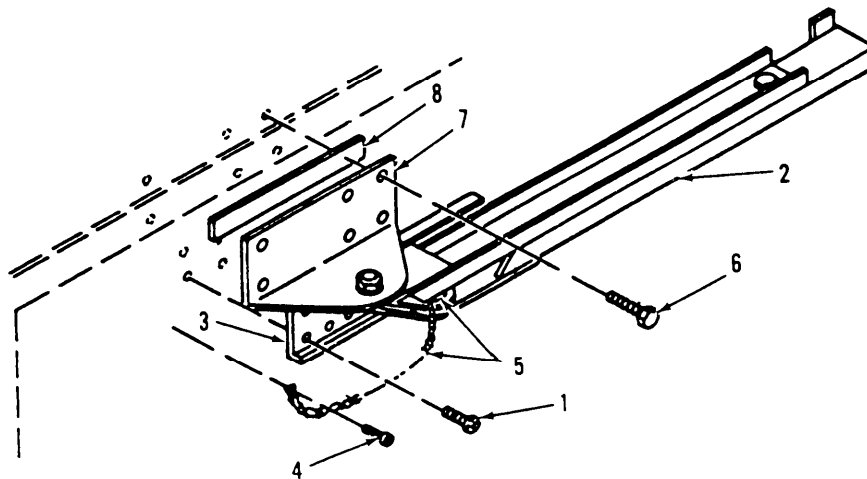
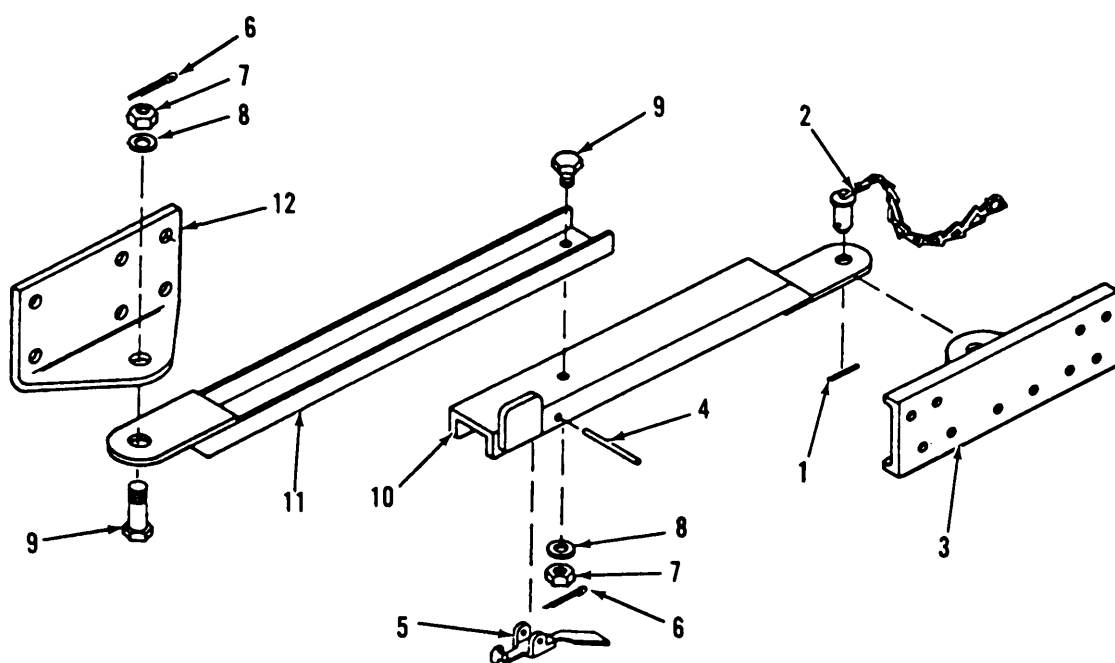

Figure 3-25. Door Brace Assembly Removal.
Figure 3-26. Door Brace Assembly Maintenance
a. Inspect. (Figure 3-26)
- (1) Inspect for missing or damaged hardware,
- (2) Inspect for wear, dents, or other damage.
- (3) Inspect that the two hex-head screws (9) move freely.
- (4) Inspect for damaged door brace catch (5) and spring pin (4).
b. Remove. (Figure 3-25)
- (1) Remove and retain the ten phillips head screws (1) attaching the door brace (2) bracket (3) to door panel.
- (2) Remove and retain screw (4) attaching the pin and chain assembly (5) to door panel.
- (3) Remove and retain six hex head screws (6) attaching door stop angle (7) and shim (8) to shelter wall and remove door brace assembly (2) and shim (8).
c. Disassemble. (Figure 3-26)
- (1) Remove the cotter pin (1) and release the chain and pin assembly (2) and door stop bracket (3).
- (2) Punch out spring pin (4) and release the door brace catch (5).
- (3) Remove cotter pin (6) attaching castle nut (7) and remove castle nut (7), flat washer (8), and screw (9) to remove the lower brace assembly (10) from the brace assembly (11).
- (4) Remove cotter pin (6), screw (9), flat washer (8), and castle nut (7) attaching the brace assembly (11) to door stop angle (12).
d. Assemble. (Figure 3-26)
- (1) Position the end of brace assembly (11) under door stop angle (12), align mounting holes and secure with a screw (9), flat washer (8), castle nut (7), and cotter pin (6).
- (2) Place lower brace assembly (10) under brace assembly (11), align mounting holes and secure with screw (9), flat washer (8), castle nut (7), and cotter pin (6).
- (3) Using the spring pin (4) attach the door stop catch (5) to lower brace assembly (10).
- (4) Place the free end of the lower brace (10) inside the door stop bracket (3) and secure with pin and chain assembly (2).
- (5) Secure pin and chain assembly (2) with cotter pin (1).
e. Install. (Figure 3-25)
- (1) Position shim (8) and doorstop angle (7) in place on shelter wall and secure with six hex head screws (6).
- (2) Place door brace bracket (3) on door, and secure to door panel with ten phillips head screws (1).
- (3) Secure chain end of pin and chain assembly (5) to door panel with screw (4).